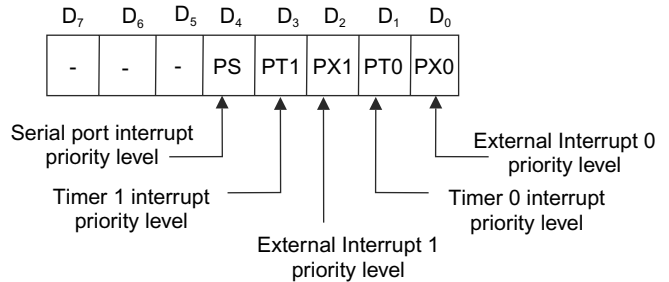

Fig. 13.52 IP register
The Interrupt Priority (IP) Register is used to determine the interrupt priority. Figure 13.52 shows the bit addressable IP register. When the bit is 0, the corresponding interrupt has lowest priority and if the bit is 1, the corresponding interrupt has the higher priority. When two interrupts occur at the same time, the higher priority interrupt gets service fast and then the next higher priority interrupt gets service. The priority of interrupts is given below: